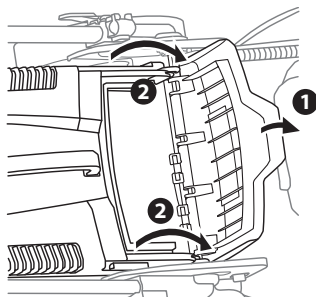

Fig. 3
2. Raise the rear discharge cover (1, Fig. 3).
3. Attach the grass catcher by inserting its frame hooks into the slots at the rear of lawn mower (2, Fig. 3).